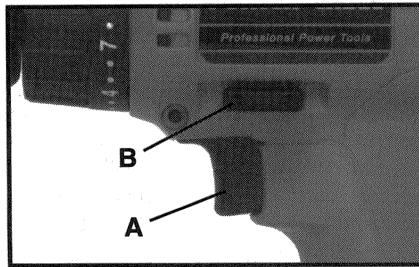

Fig. 1
Squeeze trigger switch (A) Fig. 1, to start motor. Release trigger to stop motor. As the trigger is squeezed the motor speed increases.
- Make sure trigger switch (A) Fig. 1, is in OFF position before attempting to change direction of rotation.
- Push button (B) Fig. 1, toward left side of drill for FORWARD (clockwise) rotation.
- Push button (B) Fig. 1, toward right side of drill for REVERSE (counterclock-wise) rotation.
- Place button (B) Fig. 1, in center position to lock trigger switch in OFF position.